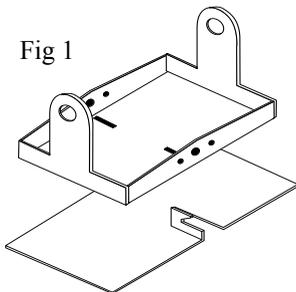

Fig 1
Step 2. Fold up the main suspension unit to form an open 'box' shape with the half-etched fold lines on the inside of the bends. See fig 1 (upper)
Step 3. Fold up the two location tabs on the mounting plate as per Fig 1 (lower) Half etch lies to the inside as above.